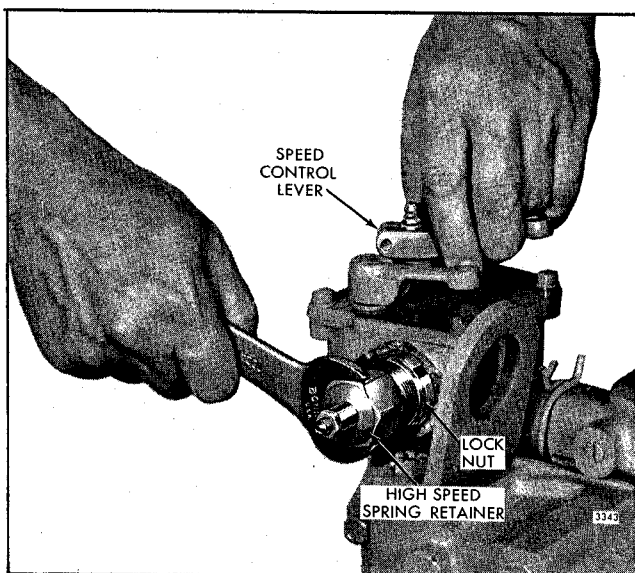

Fig. 6 - Adjusting Maximum No-Load Engine Speed
1. Loosen the lock nut and back off the high speed spring retainer approximately five turns (Fig. 6).